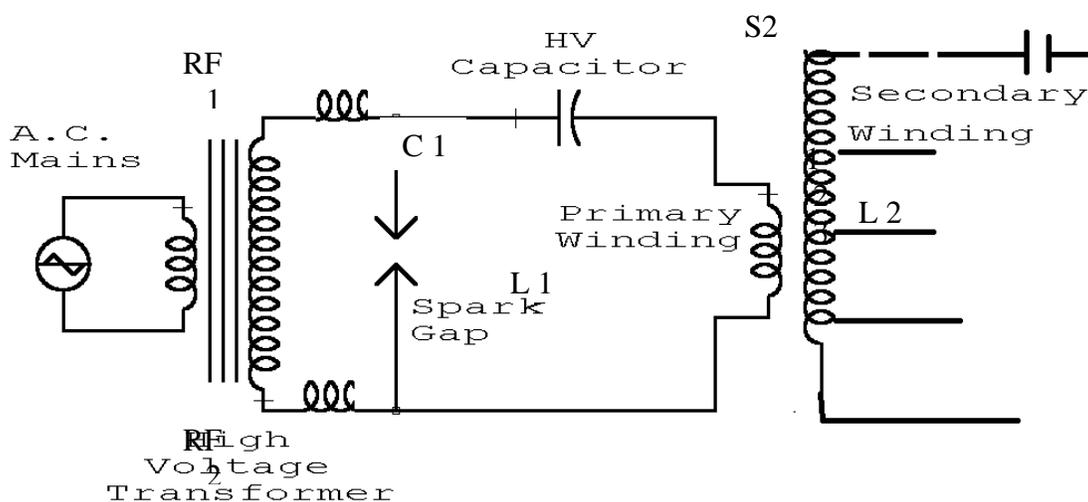

Figure 4: Spark Gap circuit
**Spark gap circuits:** the first electrosurgical instrument used spark gap technique and figure 4 shows the principle of work of spark gap instrument. Consist of high voltage transformer and electric spark gap and C1/L1 circuit. The transformer will increase the voltage from 220 v to 3000-4000v which is able to ionize the air in the gap between the two points of tungsten. When the gapstart to spark during production of electric arc by alternating pattern, it will produce currents which radio frequencies which start to oscillate in the circuit (C1/L1). This circuit is coupled "connect" with output circuit (L1/L2) by induction. The output energy which gone to the patient can be control its intensity through taken different level of energy from L2 through switch S2 which is connect with the active electrode. Depending on the type and design of the instrument the power is between 25 watt and few hundred watts. The coils RF1 and RF2 are used for protection and prevent the effect or return back of radio frequencies to the input power. In some instrument the capacitor is used parallel with the secondary coil of the transformer T1. These generators are used in cauterization and coagulation to stop the bleeding from blood vessels. Most of these instruments exist in two mode cut and coagulate. The rough foot selector switch. The wave for cutting is pure sinusoidal wave while the coagulation wave is damped oscillation wave according to the type and technique of the instrument.